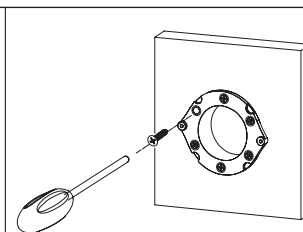

Figure 5
2. Place the Mounting Plate on the concrete wall and tighten it with 6 screws. (Figure 5).